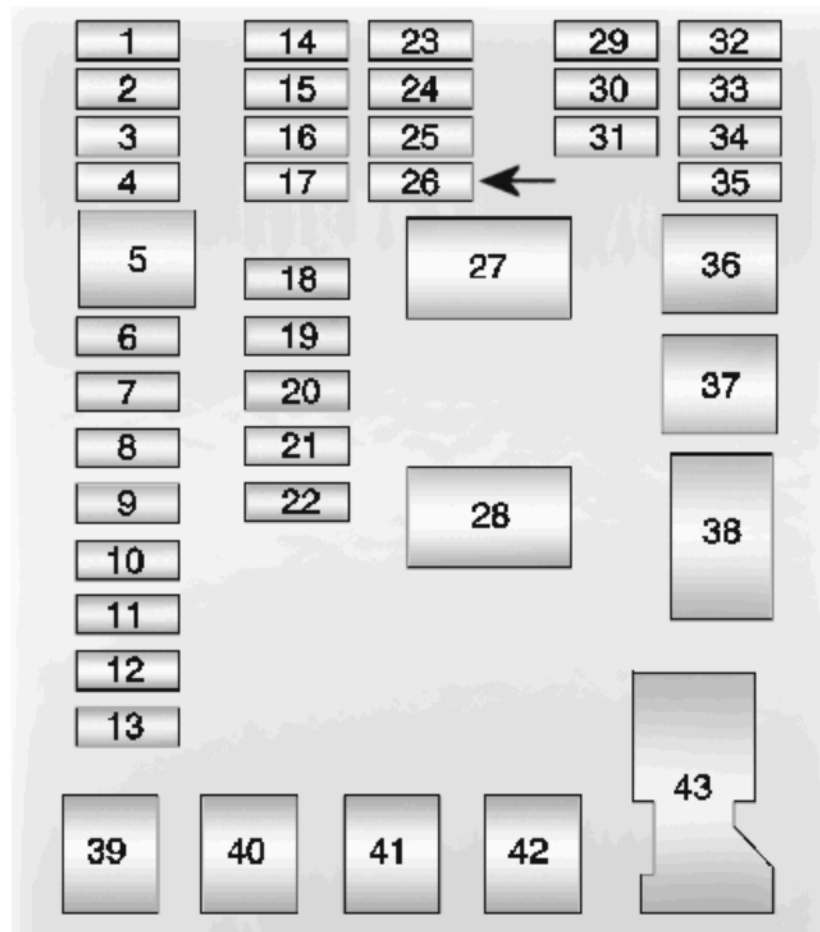

Fig. 6: Instrument Panel Fuses (Sonic)
- **2012-16 Sonic** : Fuse #F26 (F26DA) Under Dash (lower-left of dash - Fig. 6)